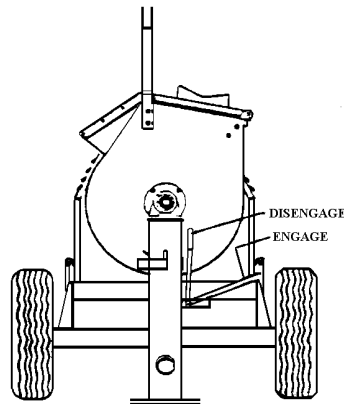

FIG. 1
This control is located at the front mixer leg. This control engages and disengages power to the paddle shaft. SEE FIGURE 1.
4. Place clutch lever in the disengaged position (See Figure 1).